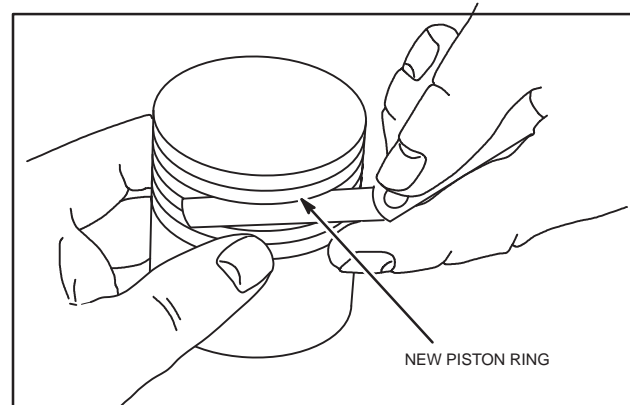

Fig. 3 – Checking Ring Grooves
1. Check side clearance of ring grooves using NEW rings, Fig. 3. If a 0.11 mm (0.0045") feeler gauge can be inserted, the ring groove is worn. The piston must be replaced.